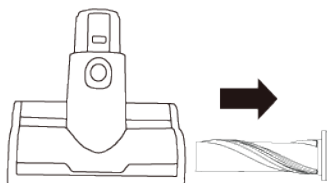

Figure 22
3. Pull out the Sidekick Roller Brush and remove debris. (Figure 22)